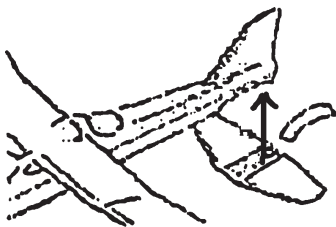

Figure 2 -Stabilizer to Fuselage
3. Peel off the covering from the adhesive tape located on the bottom side of the Fuselage Tail. Making certain that the mid point of the Stabilizer is lined up with the midpoint of the Fuselage, attach the Horizontal Stabilizer to the Fuselage-see Figure 2.